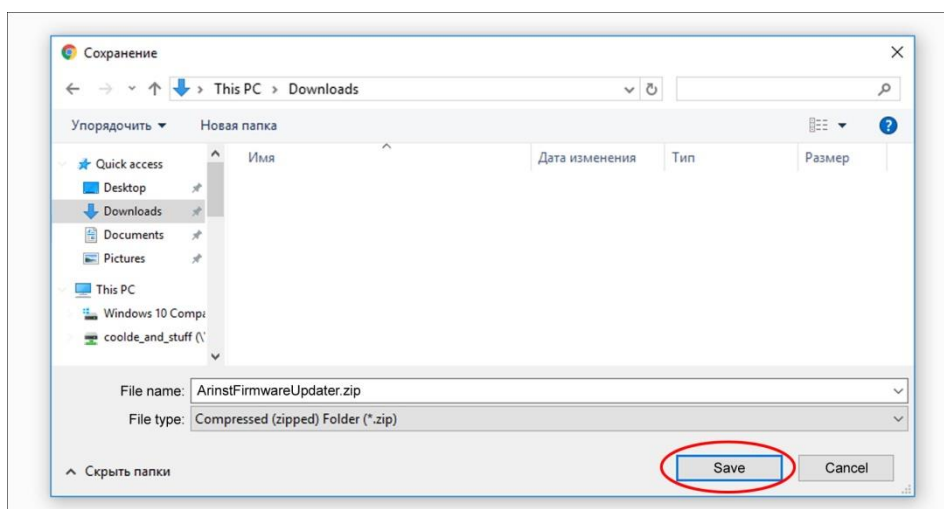

Figure A1.2 – Save the downloaded file
1.2. Specify the path where the compressed (archive) installer file should be downloaded and click **Save** (Figure A1.2).